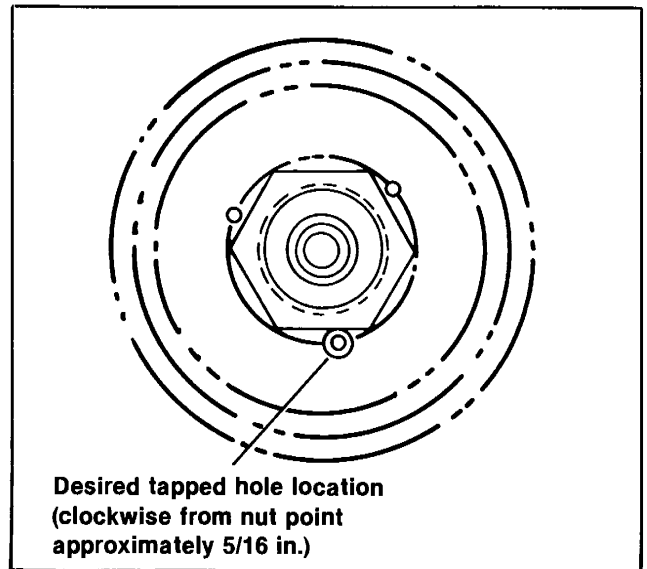

Figure 7-33. Securing Sprocket Nut
13. Install bearings. Slide the countershaft and mainshaft assembly into the transmission case and lock the transmission by engaging two gears. Tighten the nut (2) to 110-120 ft-lbs torque.
14. See Figure 7-33. Select the tapped hole whose location most closely matches the desired tapped hole location shown in figure.
If none of the tapped locations matches Figure 7-33 or the head of the locking screw contacts the sprocket nut, the sprocket nut should be additionally tightened. Do not exceed 150 ft-lbs torque. Do not loosen nut to obtain proper alignment.